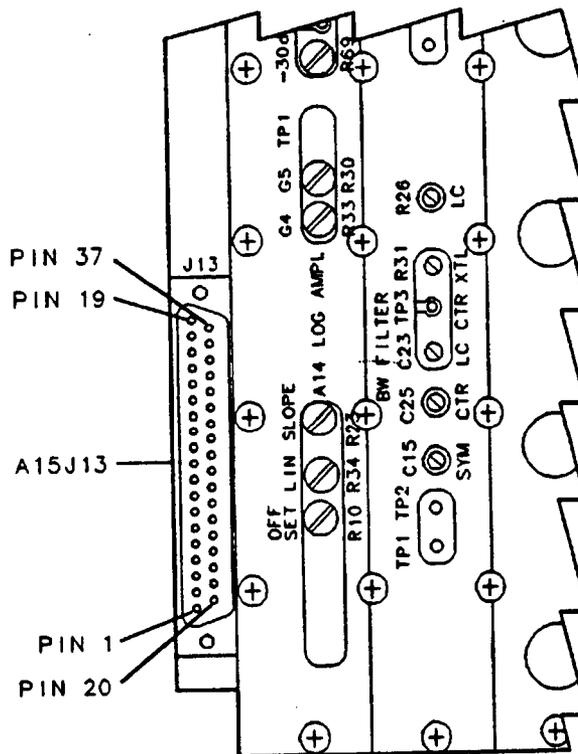

Figure 6-2. A15J13 Connector-Pin Designation
6. Check the continuity of the LPWRON signal trace from pin 2 on A16J9 to pin 19 on A15J13. Refer to Figure 6-2 for the numbering of the A15J13 connector-pins.